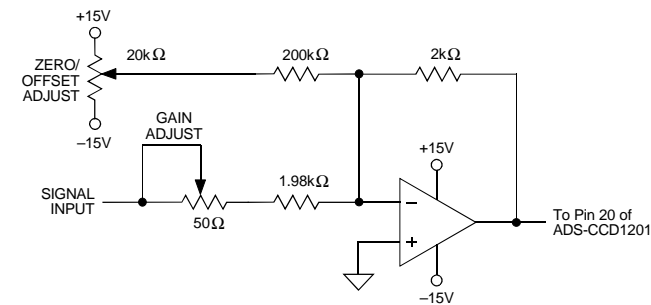

Figure 2. ADS-CCD1201 Calibration Circuit
Bypass all power supplies, as well as the REFERENCE OUTPUT (pin 21), to ground with 4.7µF tantalum capacitors in parallel with 0.1µF ceramic capacitors. Locate the bypass capacitors as close to the unit as possible. If the user-installed offset and gain adjusting circuit shown in Figure 2 is used, also locate it as close to the ADS-CCD1201 as possible.
- ADS-CCD1201 achieves its specified accuracies without external calibration. If required, the device's small initial offset and gain errors can be reduced to zero using the input circuit of Figure 2. When using this circuit, or any similar offset and gain-calibration hardware, make adjustments following warmup. To avoid interaction, always adjust offset before gain.
(Refer to Figures 2 and 3)
Any offset and/or gain calibration procedures should not be implemented until devices are fully warmed up. To avoid interaction, offset must be adjusted before gain. The ranges of adjustment for the circuit of Figure 2 are guaranteed to compensate for the ADS-CCD1201's initial accuracy errors and may not be able to compensate for additional system errors.
All fixed resistors in Figure 2 should be metal-film types, and multi-turn potentiometers should have TCR's of 100ppm/°C or less to minimize drift with temperature. In many applications, the CCD will require an offset-adjust (black balance) circuit near its output and also a gain stage, presumably with adjust capabilities, to match the output voltage of the CCD to the input range of the A/D. If one is performing a "system I/O calibration" (from light in to digital out), these circuits can be used to compensate for the relatively small initial offset and gain errors of the A/D. This would eliminate the need for the circuit shown in Figure 2.